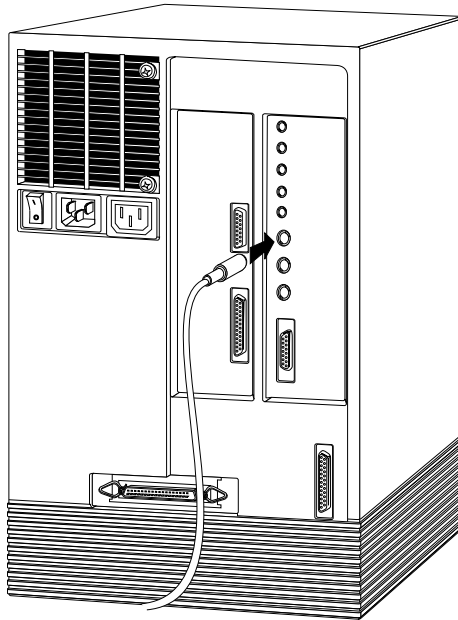

Figure 4-13 Connecting the Serial Cable to the Serial Port on the Indigo Chassis
- Plug the other end of the cable to the serial connector on the back of the Indigo chassis, as shown in Figure 4-13.